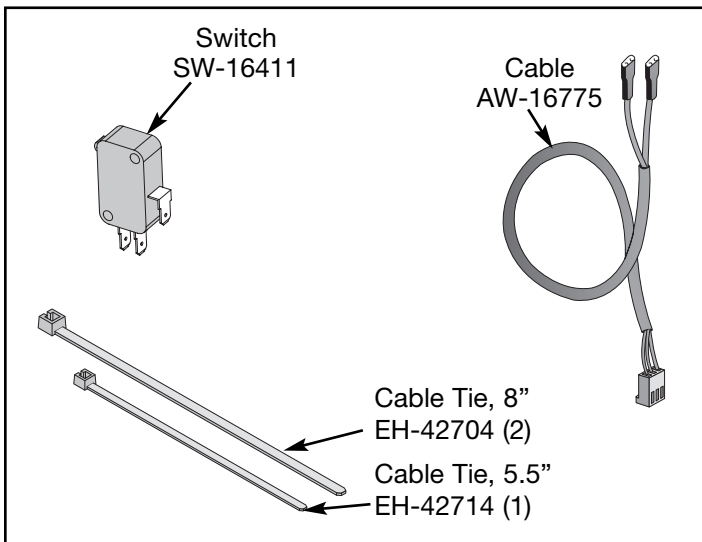

Figure 1
2. Verify kit contents. See Figure 1.
- A. Locate the new switch and cable. See Figure 1.